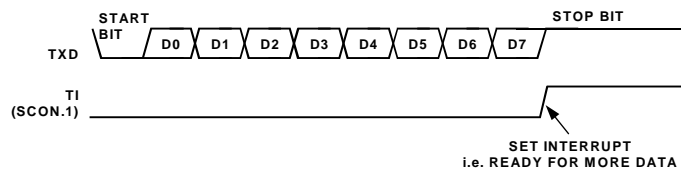

Figure 43. UART Serial Port Transmission, Mode 0.
Transmission is initiated by writing to SBUF. The 'write to SBUF' signal also loads a 1 (stop bit) into the ninth bit position of the transmit shift register. The data is output bit by bit until the stop bit appears on TXD and the transmit interrupt flag (TI) is automatically set as shown in Figure 43.